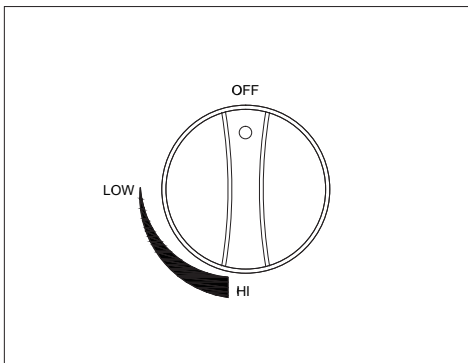

Figure 1
2. Before starting, keep the control knob in the "OFF" position (Fig. 1).